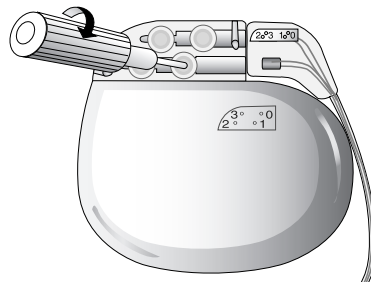

Figure 9. Tighten the setscrews in the self-sealing grommet by turning clockwise until the torque wrench clicks.
5. Fully insert the torque wrench into the self-sealing grommet of the connector block and tighten each setscrew by turning clockwise until the torque wrench clicks (Figure 9).
Note: The torque wrench must be oriented to the same angle as the setscrew (Figure 9).